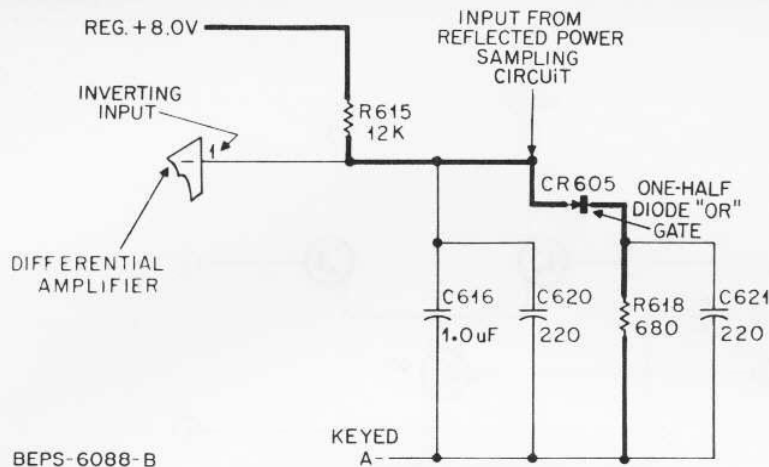

Figure 5.
2.4 When the impedances of the load circuitry and the power amplifier are matched (a VSWR of 1:1), a bias voltage produced by the dc reference bias circuitry is placed on the inverting input (also called the "reference input") of the differential amplifier (see Figure 5).
Refer to Figure 5. The reference bias is developed (with a 1:1 VSWR) by the voltage divider made up of two resistors and a diode between the regulated supply voltage and the switched A- source. Since A+ is applied to the board continuously and A- is only applied when the exciter/driver is keyed by the push-to-talk switch, the larger capacitor connected between the inverting input and keyed A- provides a time constant which allows the inverting input bias to build up slowly when power is first applied. This prevents full power output from occurring until the leveling circuitry can react and reach a quiescent level.